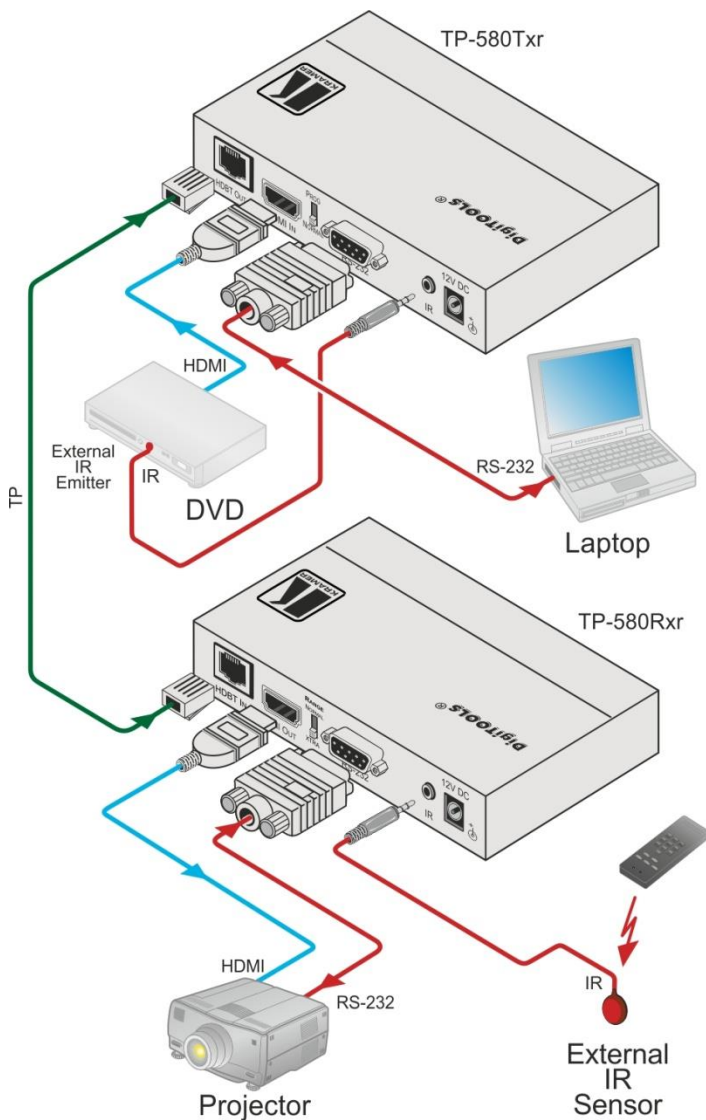

Figure 4: Connecting the TP-580Txr/TP-580Rxr Transmitter/Receiver
You can use the **TP-580Txr HDMI Line Transmitter** and the **TP-580Rxr HDMI Line Receiver** to configure an HDMI transmitter/receiver system, as shown in the example in Figure 4.
5. 12V DC power adapter to the power socket and connect the adapter to the mains electricity (not shown in Figure 4).
10. 12V DC power adapter to the power socket and connect the adapter to the mains electricity (not shown in Figure 4).